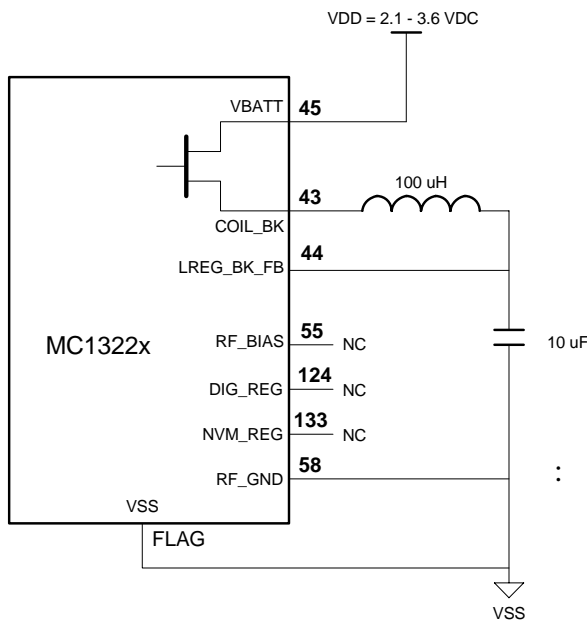

Figure 3-2. Varying VDD from 2.1 - 3.6 VDC Using Buck Regulator
For some battery-based applications, an optional, onboard buck regulator is provided to help maximize battery life. Figure 3-2 shows the configuration of the buck regulator. Onboard MOSFETs are used to switch an external inductor and capacitor as a synchronous-rectifier regulator when enabled. The buck regulator drops the higher battery voltage to about 2.0Vdc that is applied to the onboard linear regulators. This allows lower net current from the battery to maximize the life of the battery.
- Device start-up from reset/POR - The circuit configuration of Figure 3-2 presents a conundrum for start-up: the NVM must be powered to allow the boot process to read the NVM, load RAM, and start executing from RAM. However, the default for power supply configuration is VBATT